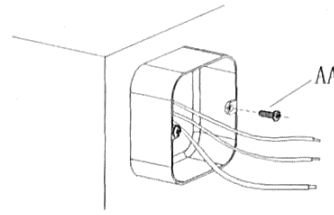

Figure 2
1. Install the two screws (AA) into the junction box. (Figure 2)